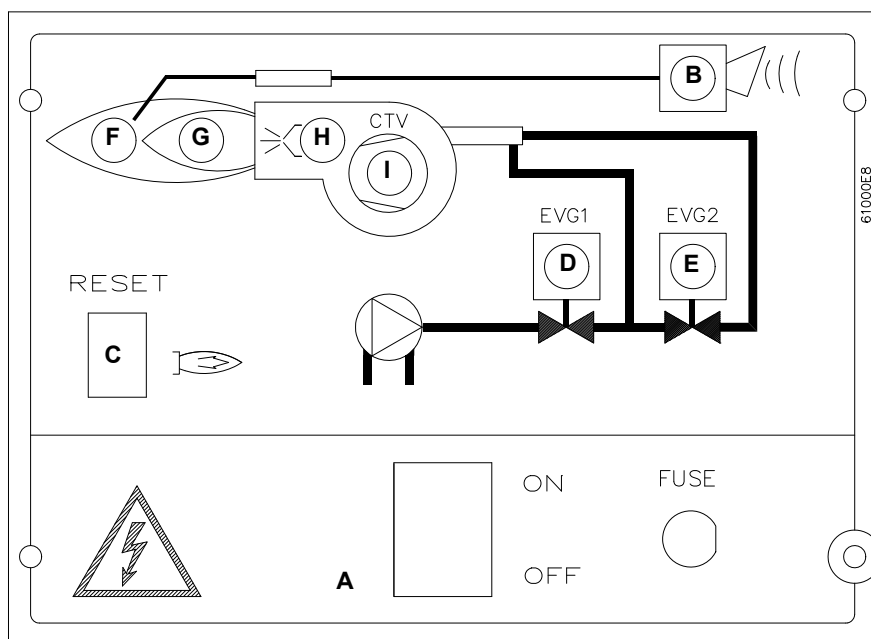

Fig. 9
- 5 Turn the burner on by means of its main switch **A** (Fig. 9): if the burner locks (LED **B** on in the control panel) press the RESET button (**C**) on the control panel (Fig. 9) - page 23;